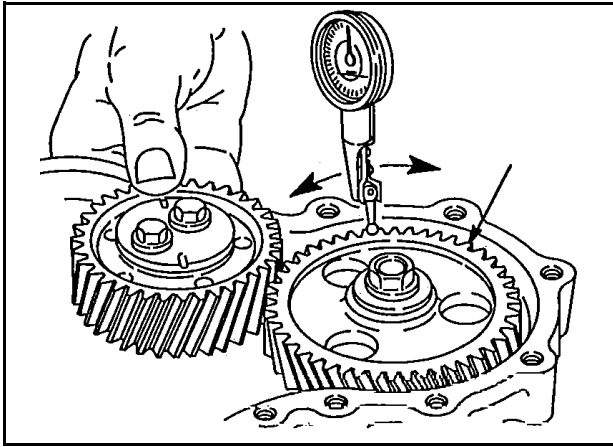

Fig.9-Checking Camshaft Timing Gear Backlash
3. Hold idler gear as shown and check gear backlash between camshaft timing gear and idler gear using dial indicator, Fig.9.